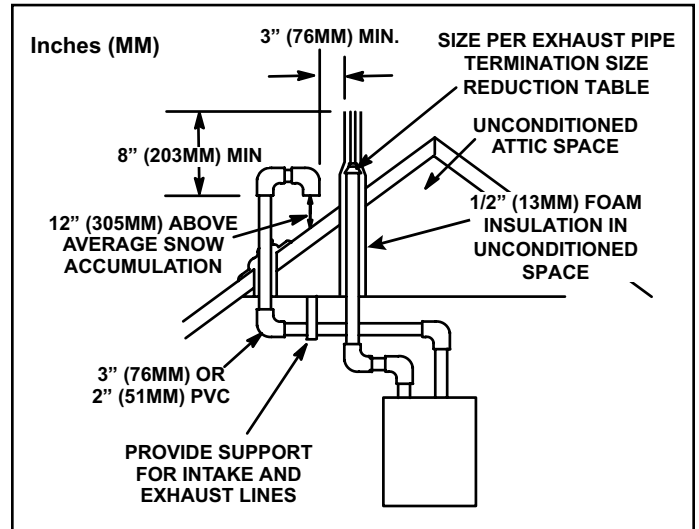

Figure 30. Direct Vent Roof Termination Kit
Intake and exhaust pipes may be routed either horizontally through an outside wall or vertically through the roof. In attic or closet installations, vertical termination through the roof is preferred. Figure 30 through Figure 37 show typical terminations.
3. On roof terminations, the intake piping should terminate straight down using two 90° elbows (see Figure 30).